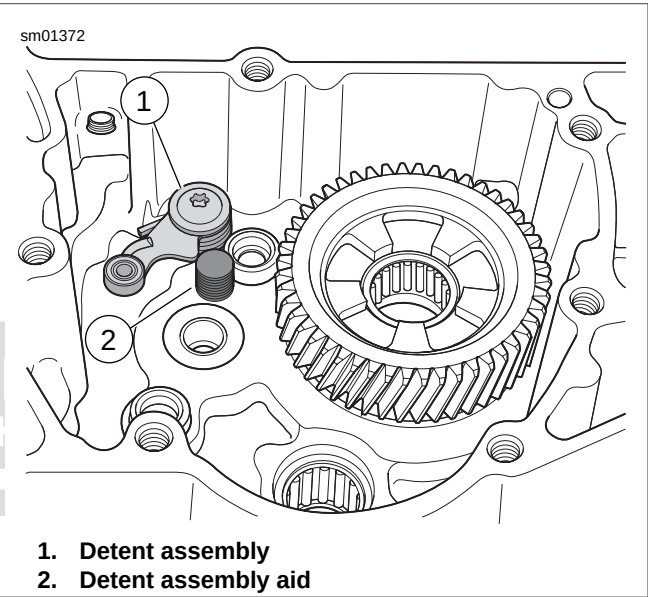

Figure 5-99. Using Gear Detent Assembly Aid (Part No. B-45520)
See Figure 5-99. The GEAR DETENT ASSEMBLY AID (Part No. B-45520) is used to move the gear detent lever clear of the shifter drum for assembly purposes.
1. See Figure 5-99. Retract detent assembly in right case half and thread GEAR DETENT ASSEMBLY AID into neutral switch hole until it has bottomed in right case half.